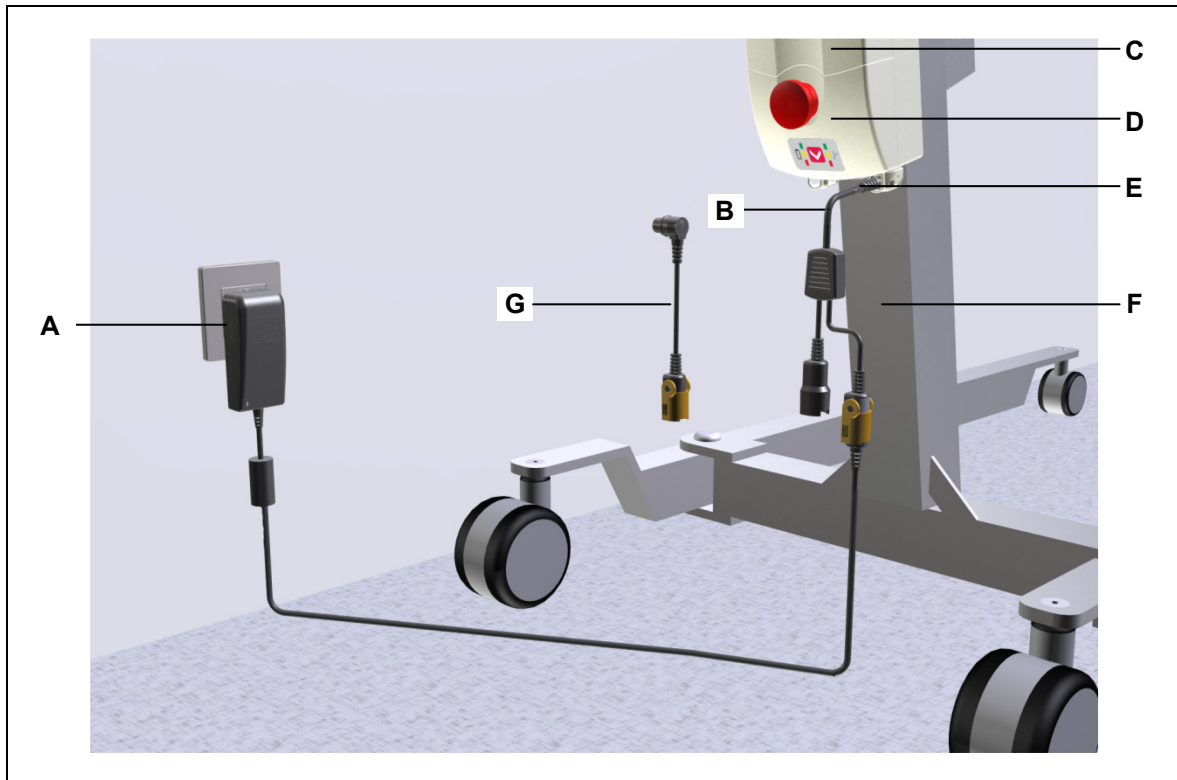

Figure 21 Charging the ACCU AC 4.5DC at the CONTROL AC 4.5DC
- 1 Use the adapter cable or the Y-cable to connect the PLUG-IN CHARGER PB 4.5 to the CONTROL AC 4.5DC (as shown in Figure 21).